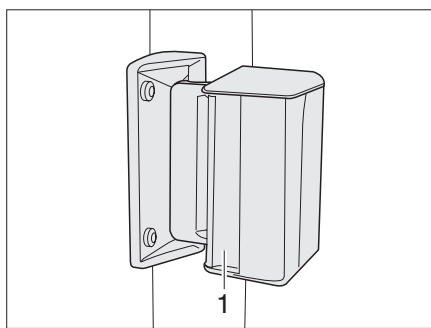

Fig. 25 Sliding window
- ▶ Press the handle (Fig. 25,1) and push or pull it forwards or backwards at the same time.